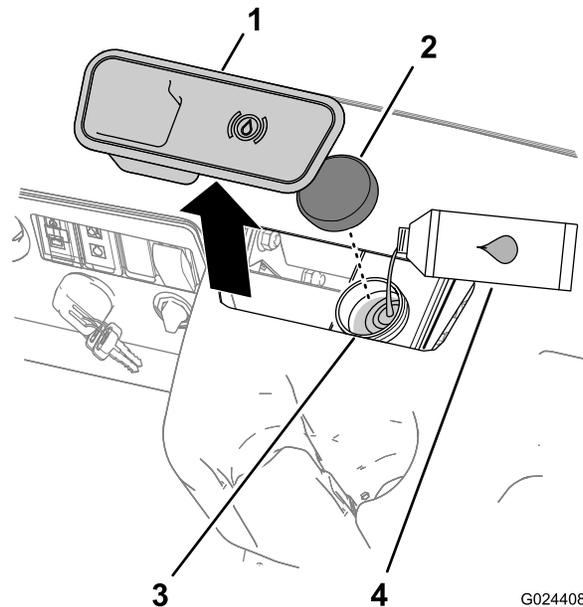

Figure 17
- Remove the rubber plug in the center and on top of the dash to gain access to the master brake cylinder and reservoir (Figure 17).
- Clean the area around the reservoir cap, and remove the cap (Figure 17).
- Install the reservoir cap (Figure 17).